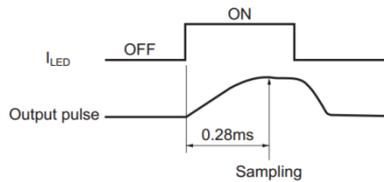

Figure 3: Sampling timing of output pulse
- 2) Wait 0.28ms, then the external controller starts to sample the voltage from the pin  $A_{OUT}$  of the module. Notes that the output wave will take 0.28ms to reach steady state after the internal infrared emitting diode is enabled, as Figure 3 shows.